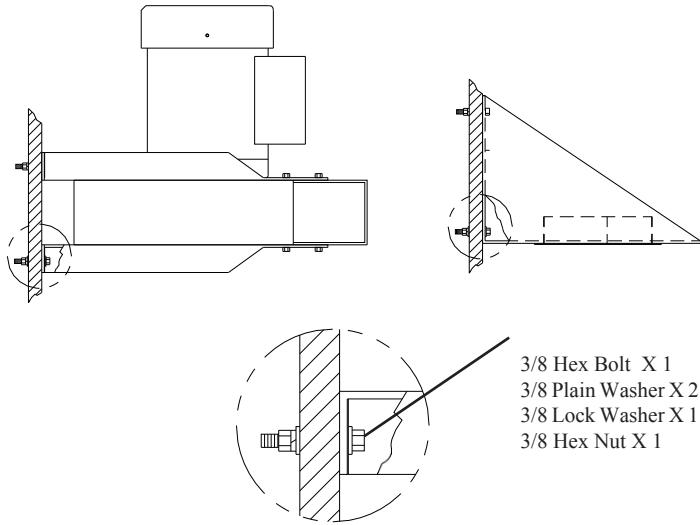

Fig. 2
2. Drill holes into wall or support that align with the gusset or blower mount assembly. Attach the assembly to the wall using hardware provided (Fig. 2).